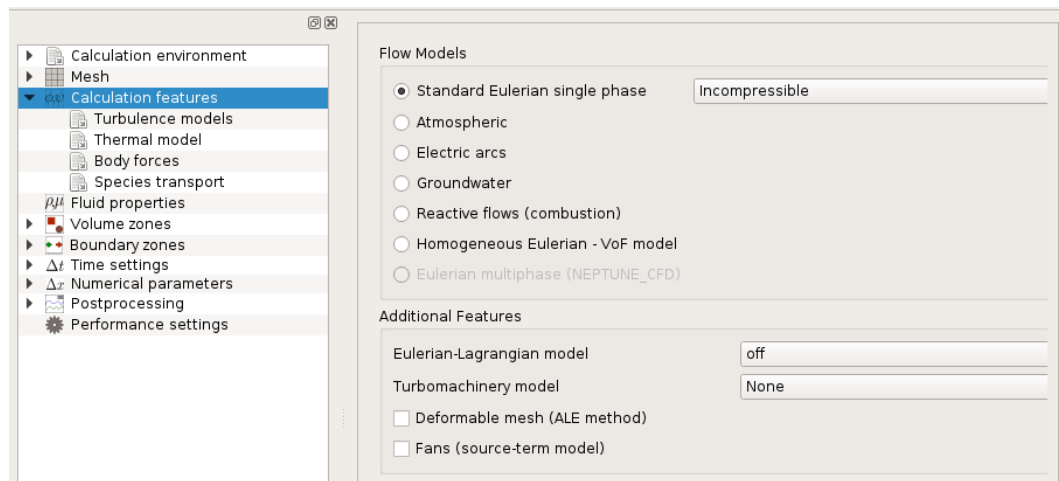
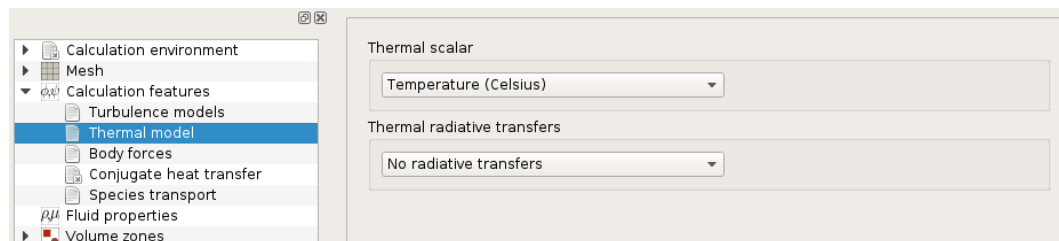
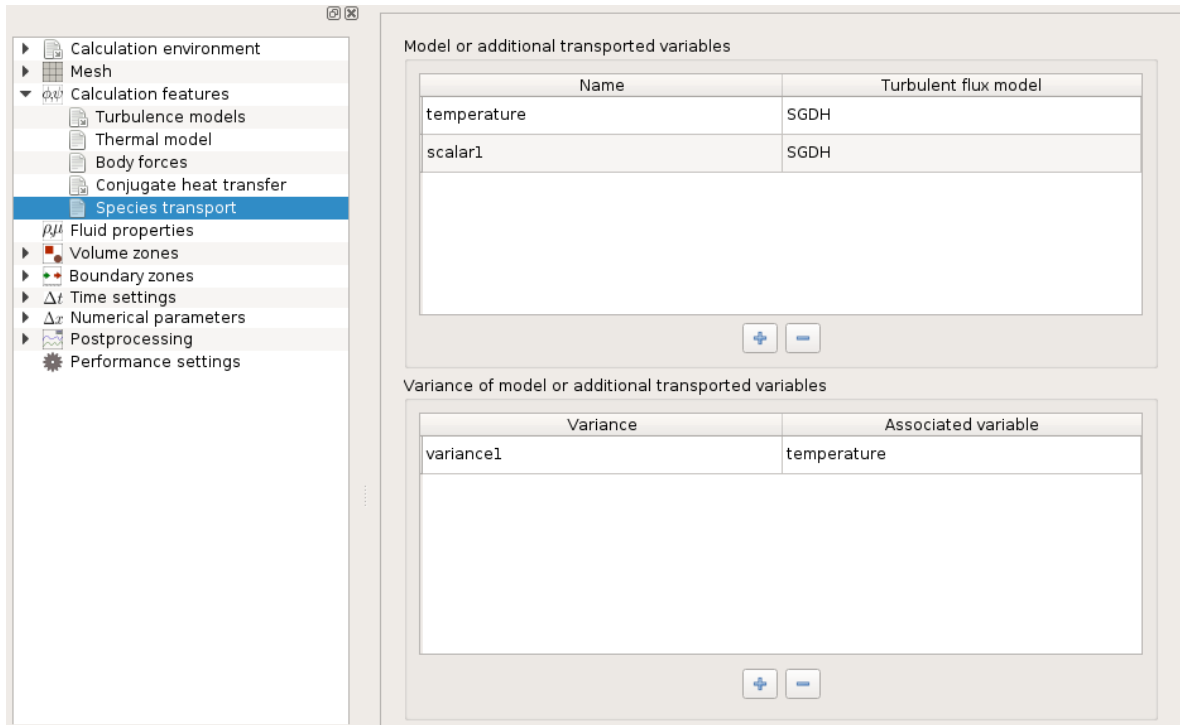

Figure 10: Calculation features options
Figure 12: Thermal scalar selection
Figure 13: Definition of the transported species/scalars
This operation is done in the Graphical User Interface (GUI) or by using the user subroutines in `cs_user_parameters.f90`. In the GUI, the initialisation is performed by filling the parameters displayed in Figure 10 to 25. If the 'Mobile mesh' option is activated, please see Section 7.11.4 for more details. The headings filled for the initialisation of the main parameters are the followings:
- Thermophysical model options: Steady or unsteady algorithm, specific physics, ALE mobile mesh, turbulence model, thermal model and species transport (definition of the scalars and their variances), see Figure 10 to Figure 13. If a thermal scalar, temperature or enthalpy, is selected, two other headings on conjugate heat transfer and radiative transfers can be filled in (see Figure 12).